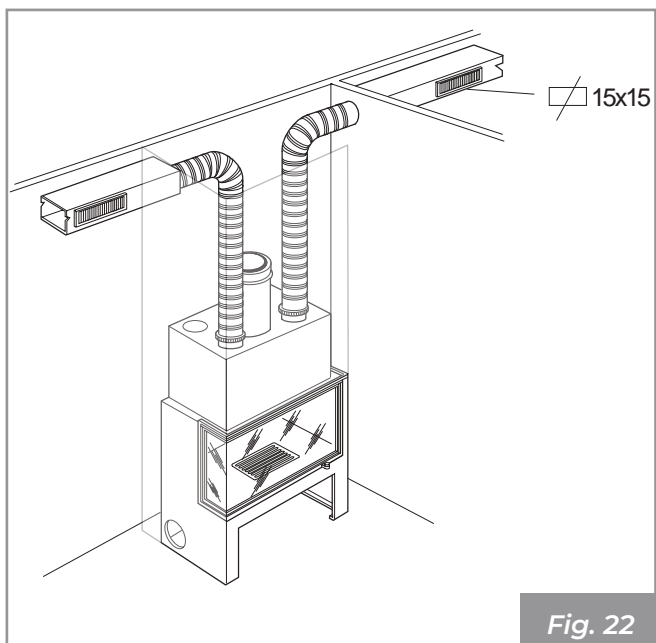

Fig. 22
- Flexible aluminium hose - length up to 6 m on a single duct **(Fig. 22)**;
- Smooth metal pipe - length up to 10 m on a single duct **(Fig. 22)**;